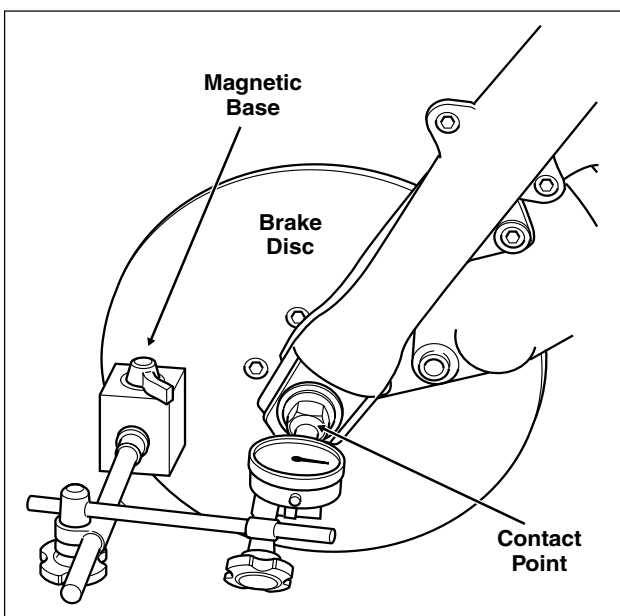

Figure 2-1. Check Front Wheel End Play
- a. Mount a magnetic base dial indicator to the brake disc with the contact point on the end of the axle. See Figure 2-1.